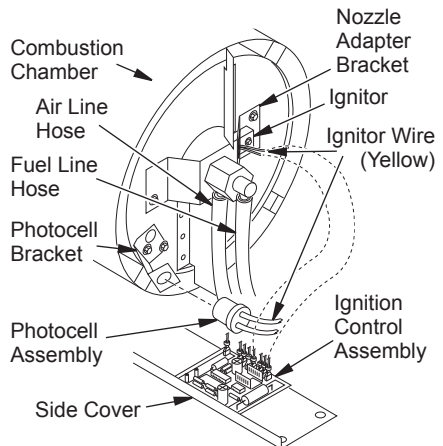

Figure 17 - Disconnecting Ignitor Wires from Ignition Control Assembly
4. Disconnect ignitor wires (yellow) from ignition control assembly (see Figure 17). Pull the ignitor wires up through the hole in the lower shell.
5. Disconnect fuel line hose and air line hose. Remove photocell from photocell bracket (see Figure 17).
- Route the ignitor wires back down through the hole in the lower shell. Connect wires to the ignition control assembly (see Figure 17, page 11).